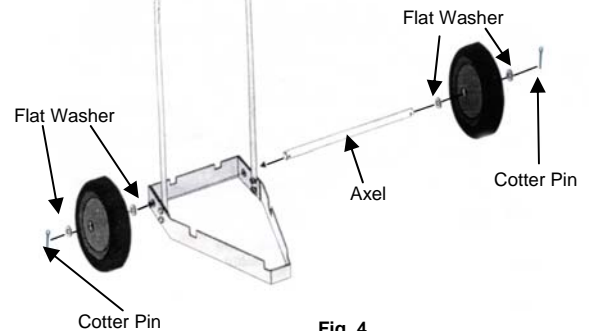

Fig. 4
8. Slide the axel through the holes in the rear frame. (Fig. 4)
12. Secure each wheel with a cotter pin placed in the hole and wrapped around the axel to secure the wheel to the axel. (Fig. 4)